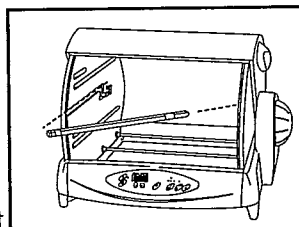

Figure 1
3. Angle the Rotisserie Bar so the **pointed end** fits into the center hole in the **right side** (when facing front of Rotisserie) of the Rotisserie Oven . See Figure 1.